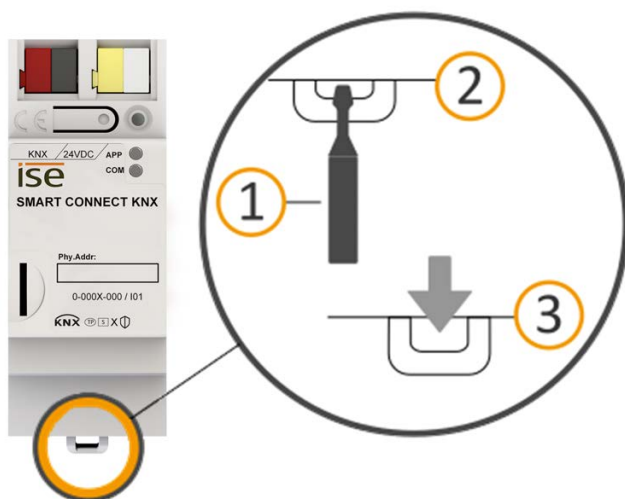

Figure 33: Detaching the device from the top-hat rail
1. Insert a screwdriver (see figure 33, item 1) into the release lever (see figure 33, item 2) and push the release lever down (see figure 33, item 3).